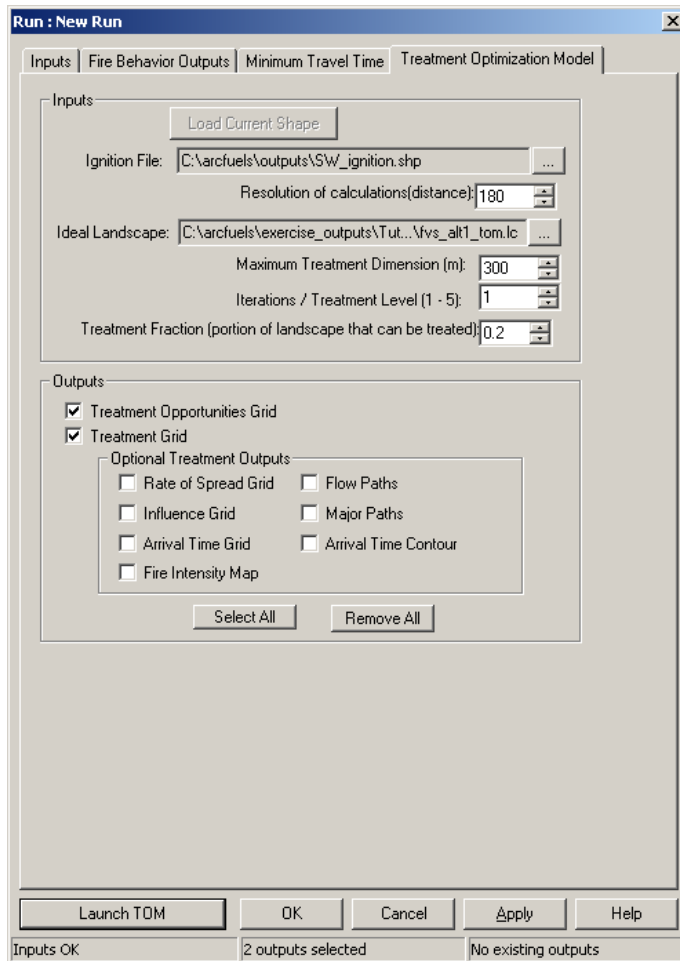

Figure 4-61—Treatment Optimization Model (TOM) options tab in FlamMap.
5) Select the **Treatment Optimization** tab (fig. 4-61).